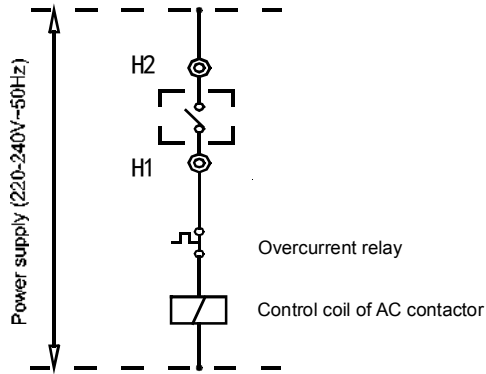

Fig. 5-2
Step 10. Connection of control wires of auxiliary electric heaters: the control wires of AC contactor of the auxiliary electric heater must pass the connection terminals H1 and H2 of the main unit, as shown in Fig. 5-2.